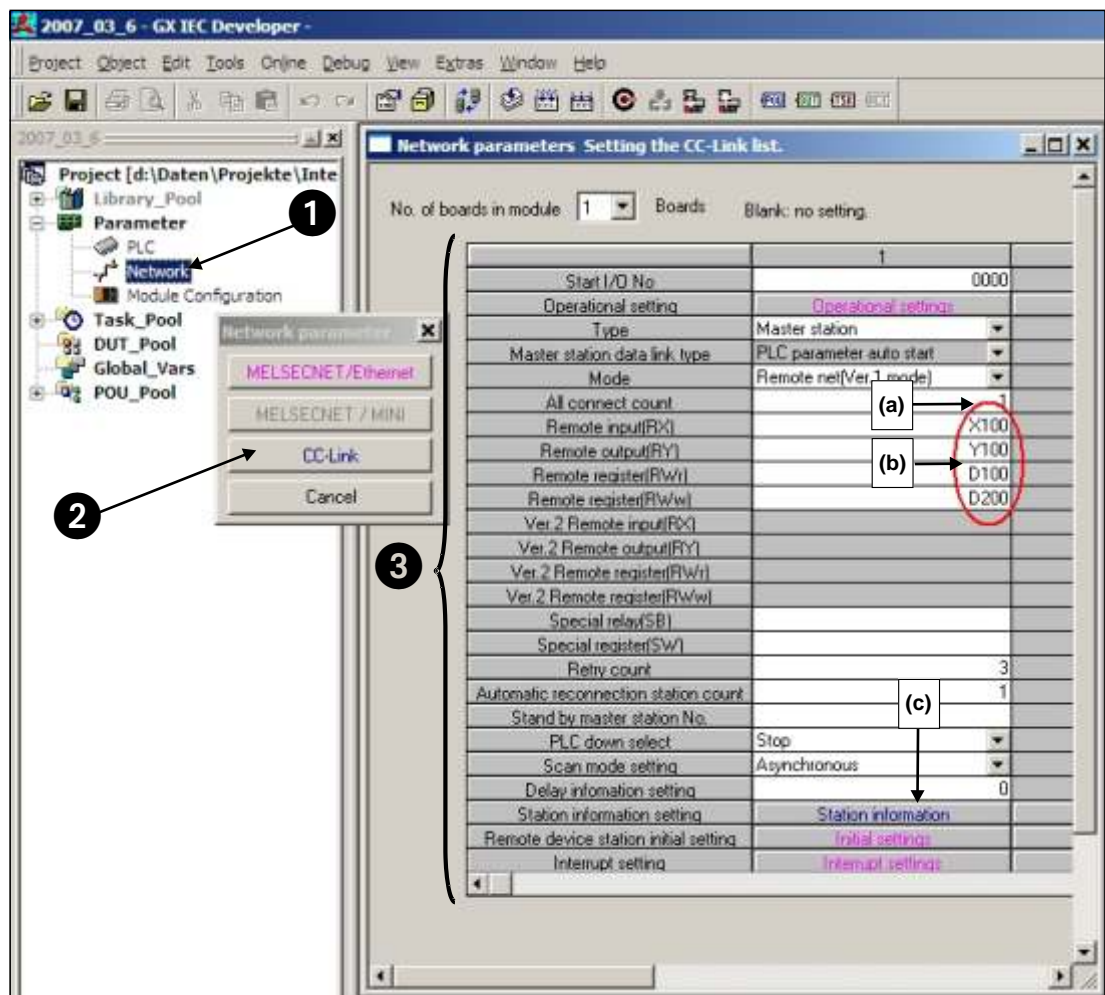

Fig. 5-6: Settings required in GX IEC Developer for CC-Link communication between the controller and the servo amplifier
- ① Select *Network* ❶ in the project directory tree in the left window.
- ② Select *CC-Link* ❷ in the *Network Parameter* box.
- ③ This opens the window *Network parameters: Setting the CC-Link list* where you can now enter the settings shown in Fig. 5-6 ❸.